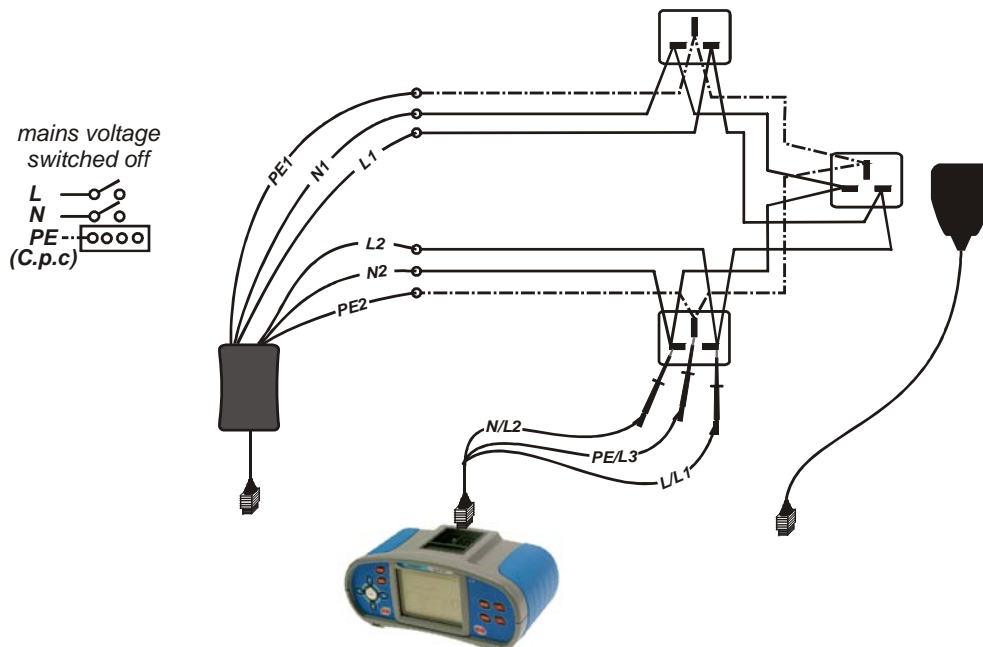

Figure 5.25: Verification of wall sockets of tested ring final circuit using universal or plug cable
- ❑ Perform a measurement on socket (see *figure 5.25*).